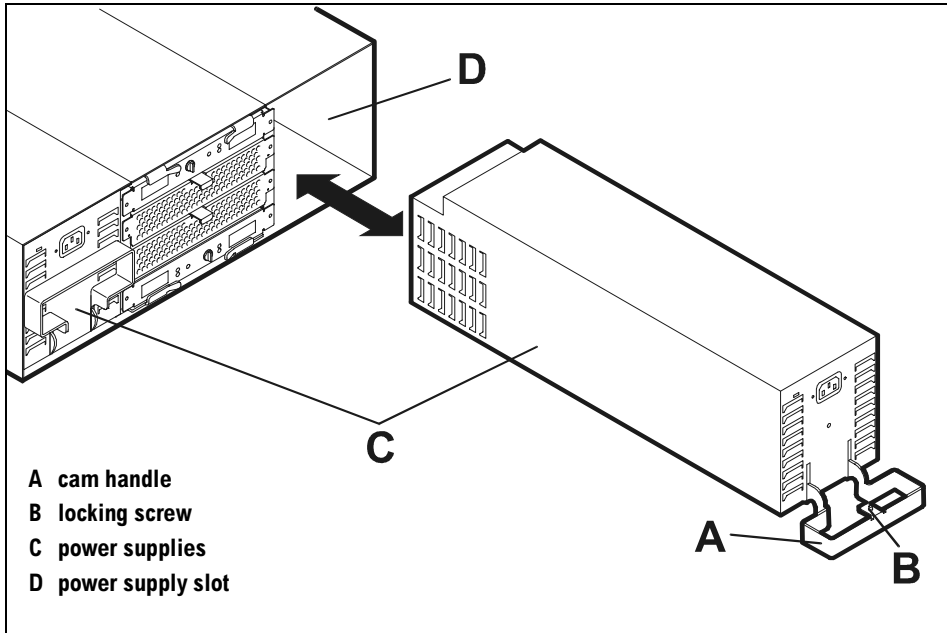

Figure 45 Power Supply Removal and Replacement
2. Loosen the screw (B in Figure 45) from the power supply handle (A).
5. With the handle down, slide the replacement power supply into the empty slot (D in Figure 45). The power supply begins to engage the backplane with $\frac{3}{8}$ inch (8mm) still exposed.
7. Tighten the screw (B) in the power supply handle (A).